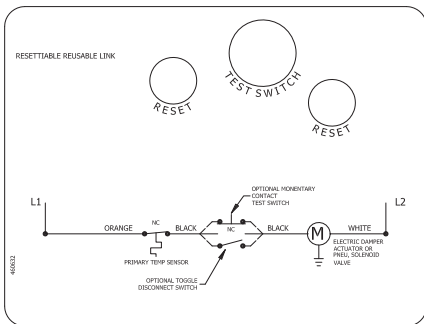

Figure 6: RRL Wiring
**RRL** - The RRL (resettable link device) incorporates a single thermostat. When the thermostat temperature is reached, the sensor interrupts power to the actuator and the actuator's spring return mechanism causes the damper to close. Refer to **Figure 6** for wiring of the RRL thermostat.
## Ratings (Figure 6, 7, 8, & 9)